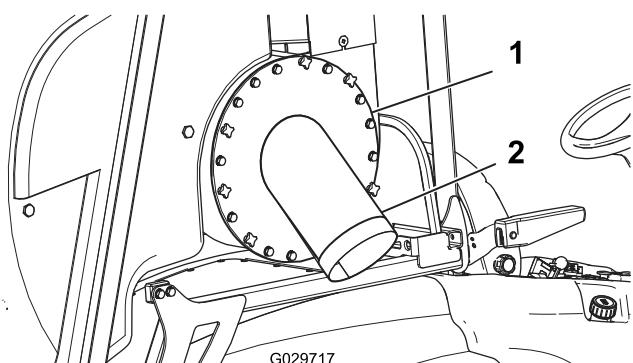

Figure 12
1. Install the turbine fan cover over the fan using knobs and bolts (Figure 12).
6. Slide the other end over the port on the turbine fan cover (Figure 12) and tighten the hose clamp to secure it.